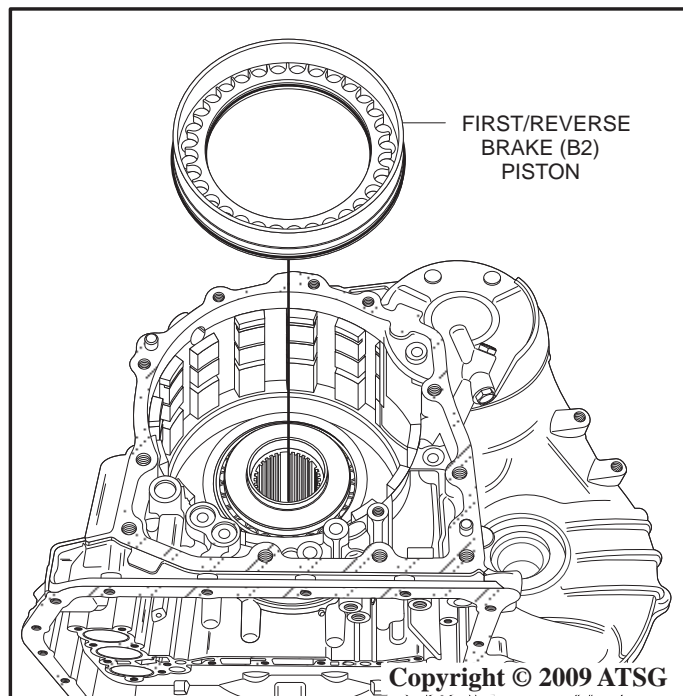

Figure 147
7. Install the first/reverse brake (B2) piston into the case by twisting and pushing downward as shown in Figure 147.